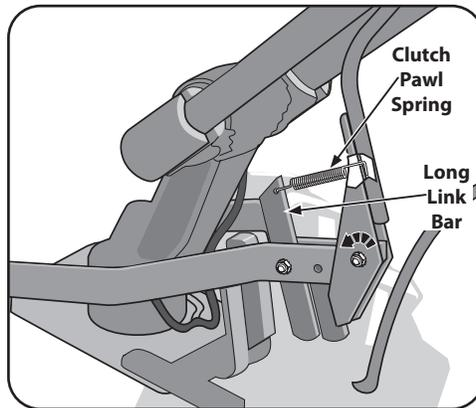

Figure 3-9
5. Retrieve the clutch pawl spring from hardware bag. Remove the temporary screw from the forward holes inserted in Step 3 and move the Wheels/Tines/PTO Drive Lever fully forward. Install the wider hook end of the clutch pawl spring down into the small hole at the end of the handle. Use pliers to insert the other end into the hole in the long link bar. See Figure 3-9.